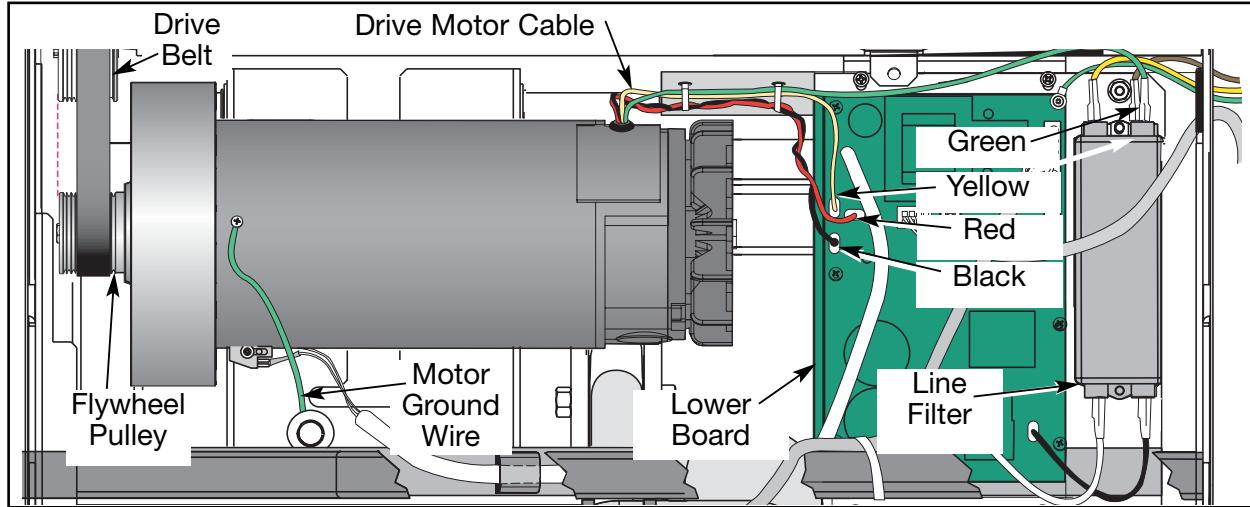

Figure 13
- B.** Slip the drive belt around the flywheel pulley and off the motor. See Figure 13.
- A.** Using a 1/2" socket wrench, remove the screw, split washer, flat washer and motor ground wire from the motor saddle. See Figure 13.
- C.** Disconnect the motor cable from the lower board and line filter. **NOTE:** You will disconnect four wires (red, black, yellow and green). See Figure 13.
A. Connect the motor cable to the lower board and line filter as shown in Figure 13 (red to A1, black to A2, yellow to BW and green to the line filter). **NOTE:** For internationally installed treadmills only, the green cable goes on the ground stud tab.